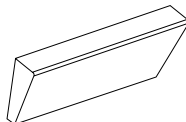

Figure 5. Gel Casting Dam.
- **Gel Casting Dams** (figure 5). The gel casting dams are used to seal the ends of the gel deck when pouring agarose gels and eliminate the use of tape.